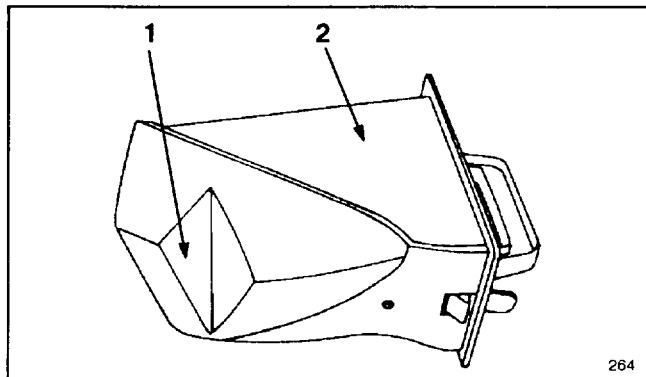

Figure 6
- A plug which locks into the mower's discharge tunnel (a fifth kicker is on the plug) (Fig. 6)
It is possible to mow without using the plug by closing the discharge tunnel door. However, your lawn appearance will be much more satisfactory if you use the plug as it has an additional kicker (Fig. 6) that helps drive the clippings down into the grass.